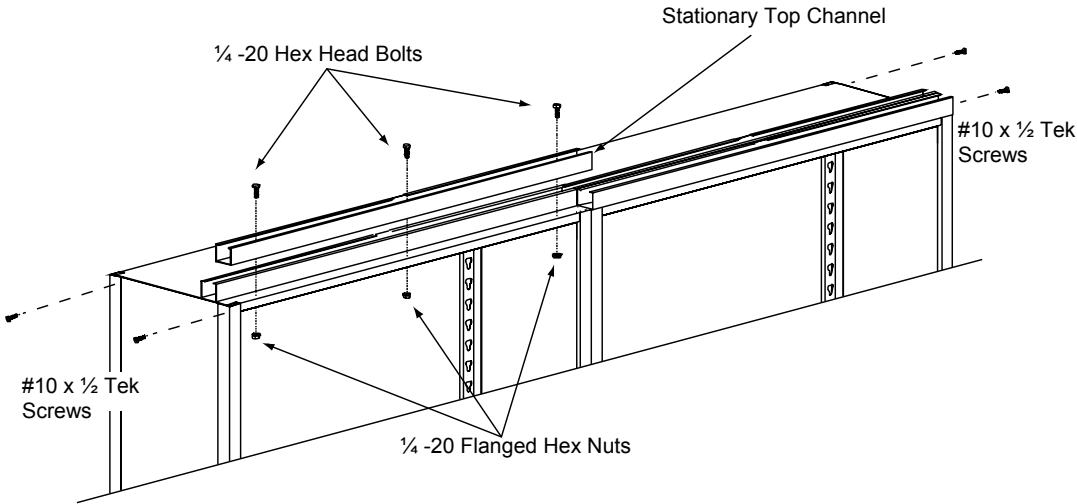

FIGURE 11
STEP 2 Attach the Stationary Top Channels to the tops of the stationary shelving sections. Position each channel flush and even with the sides and front of each of the top sections and drill a 5/16 diameter clearance in the top shelves. Attach the channel by using three (3) 1/4-20 x 3/4 hex head bolts and secure using the 1/4 - 20 flange nuts. Repeat this step for each rear stationary section. Using the #10 x 1/2 Tek screws, fasten the top shelves to their upright posts. ***See Figure 11.***
STEP 3 Attach a second row of Stationary Top Channels directly in back of the first row using three (3) 1/4-20 x 3/4 hex head bolts and secure using the 1/4 - 20 flange nuts. Repeat this step for each rear stationary section. ***See Figure 11.***